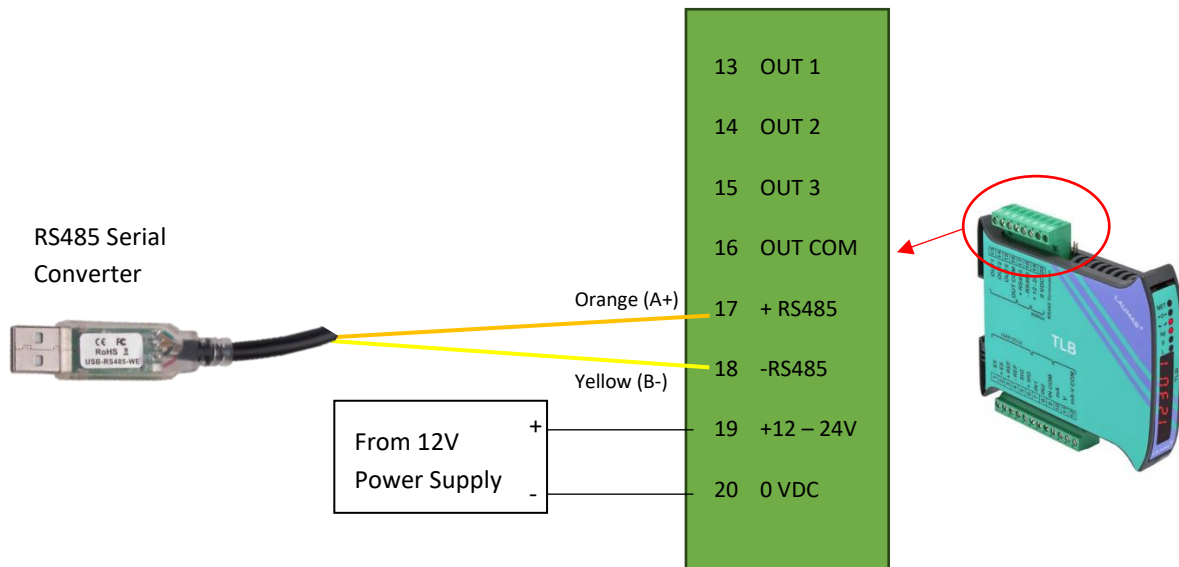

Figure 42 – USB-to-RS485 Wiring
- Only the orange and yellow wires of the RS485 converter is used. Strip and crimp ferrules on the end of the wires and connect as see in FIGURE 42 – USB-TO-RS485 WIRING